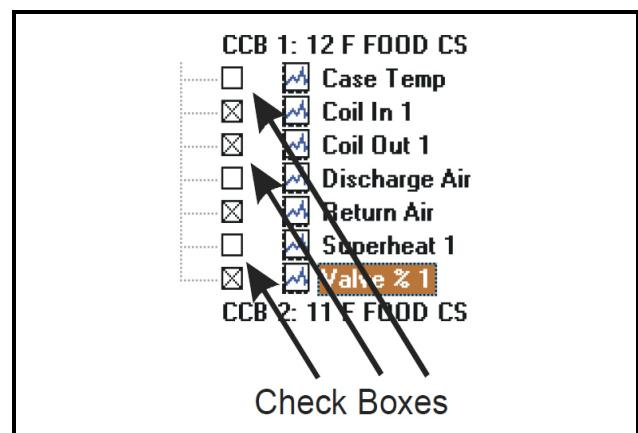

Figure 6-1 Log Check Boxes in Tree View
2. If you want to view one log at a time, click on the Log button located near the animated device. If you want to view more than one log graph from the same status screen, click each Check Box near the device, then click the Log Button in the command line at the top of the screen (see **Figure 6-1**).